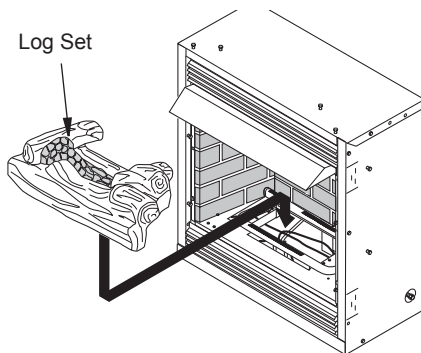

Figure 30 - Installing Log
4. Remove log packaging material and discard. Gently place log over burner (see Figure 30). (Do not allow log to contact flame as this will create sooting.)